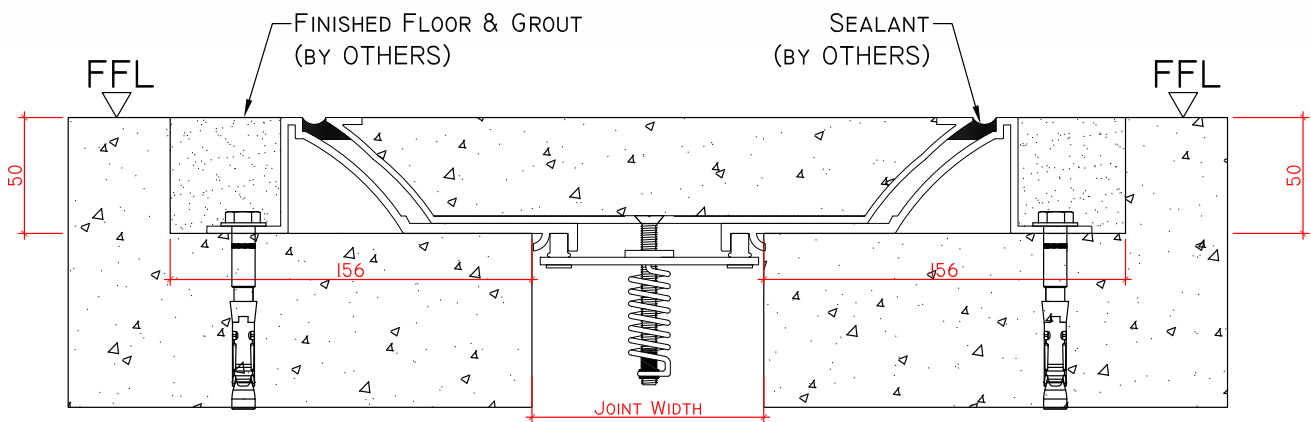

Figure 5.
17. Tighten the centering bars. As the bars tighten, the centering bar pins will move into the base member channels. Tighten the centering bars by hand. Continue to tighten the centering bars until the resistance of the spring is felt (see Figure 5). **DO NOT OVERTIGHTEN THE CENTERING BARS.** GENOTEK recommends using a hand-held screw driver to tighten the centering bars.
19. After the pan cover is installed and all the centering bars have been properly tightened in floor-to-floor installations, place the filler material (by others) into the pan (see Figure 5). The filler material must be installed in accordance with the filler manufacturer's instructions. If concrete or grout are poured into the pan, ensure that all holes and gaps in the pan have been properly dammed.